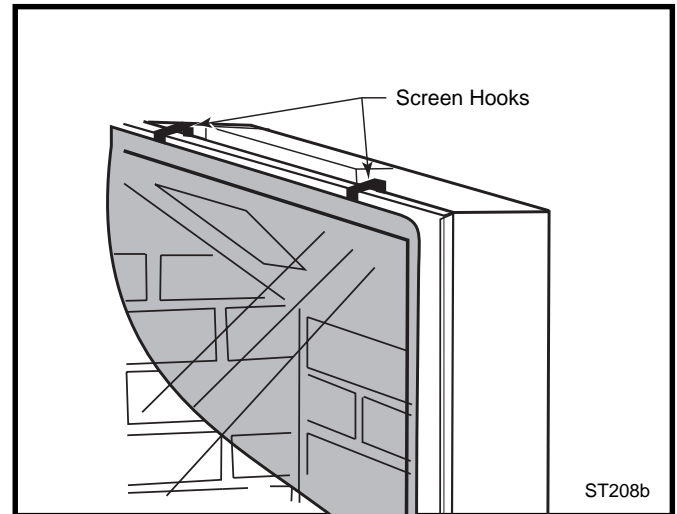

Fig. 26 Remove screen.
2. Remove the safety screen. (Fig. 26)